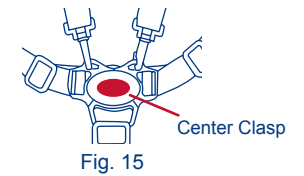

Fig. 15
15) • To release, push Button on Center Clasp, the two Harness Buckles will pop free (Fig. 15).